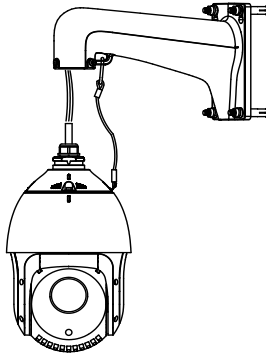

Figure 1-27 Mount the Dome
1. Hang the safety rope to the speed dome and then hook to the bracket as shown in Figure 1-27.